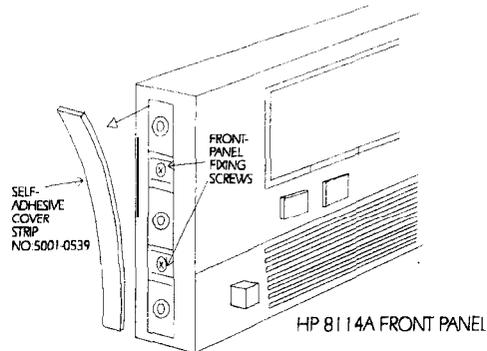

Figure 4-16. Front Panel Fixing Screws
1. Remove the 2 self-adhesive side trims. These cover the Front Panel fixing screws. See Figure 4-16 for the position of the trims